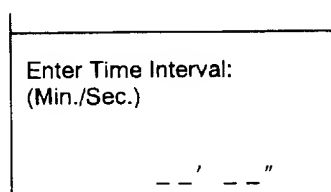

Figure 1-15 Plotting interval entry display
- 1) Press **TRACK INTVL**. Your display should look something like Figure 1-15.